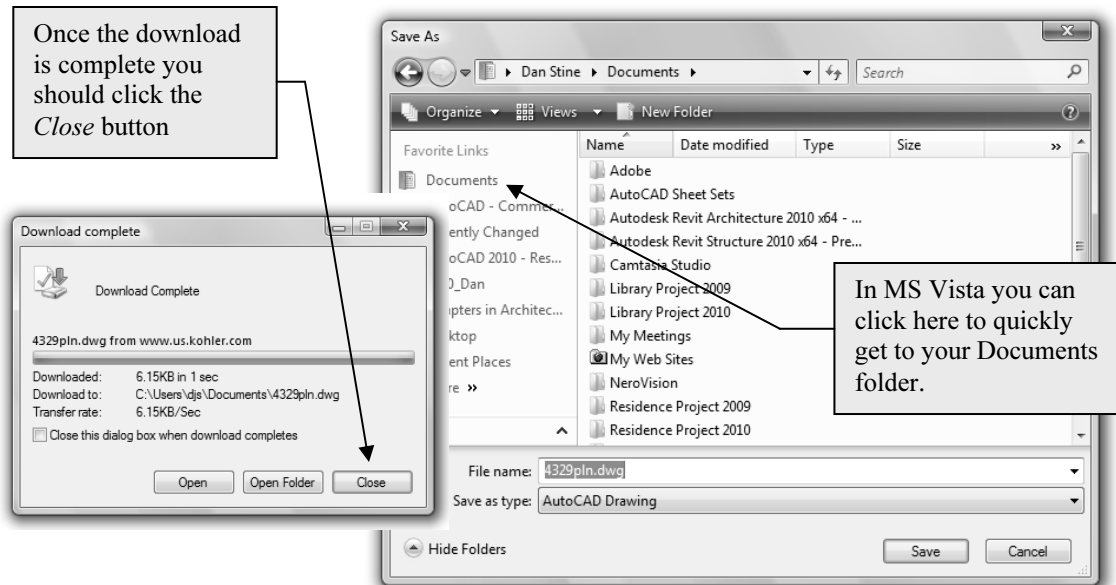

Figure 4-1.4b Saving a file from the Internet
- Browse to your **Documents** folder (Vista) or **My Documents** folder (Windows XP) and click **Save**– see Figure 4-1.4b.